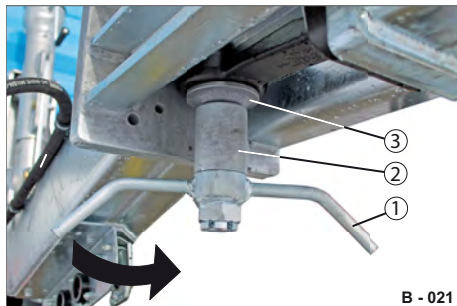

Fig. 18 Towing eye locked at bottom
- Unscrew the wing nut (Fig. 18/1) completely.
- Remove the spacer (Fig. 18/2) and the shim rest (Fig. 18/3).